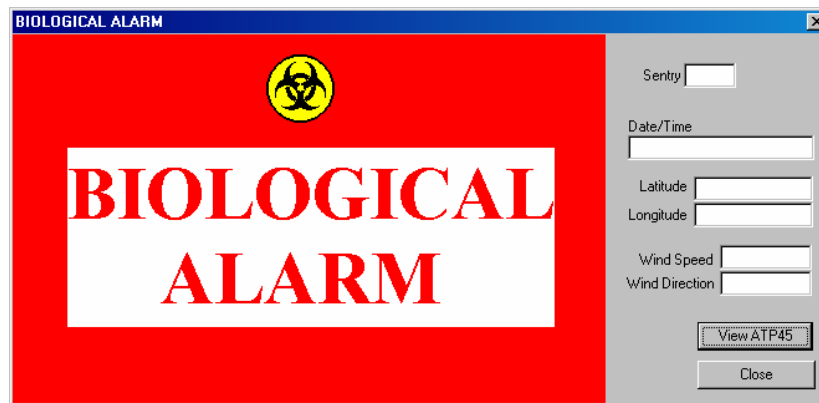

FIGURE 22. Alarm Panel
- a. An alarm panel is displayed as shown in Figure 22. The panel stays on the screen until cleared by the operator. The operator may clear the alarm panel by left clicking on CLOSE. If the operator wishes to save the ATP45 data, this must be done as described below before closing this window.